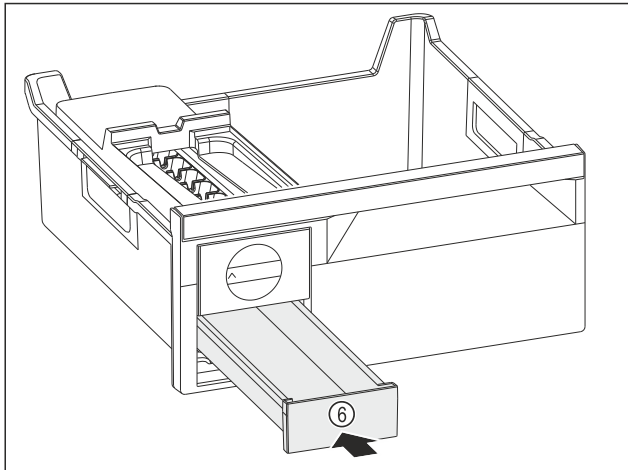

Fig. 115
- ▶ Insert the ice cube drawer Fig. 115 (6).